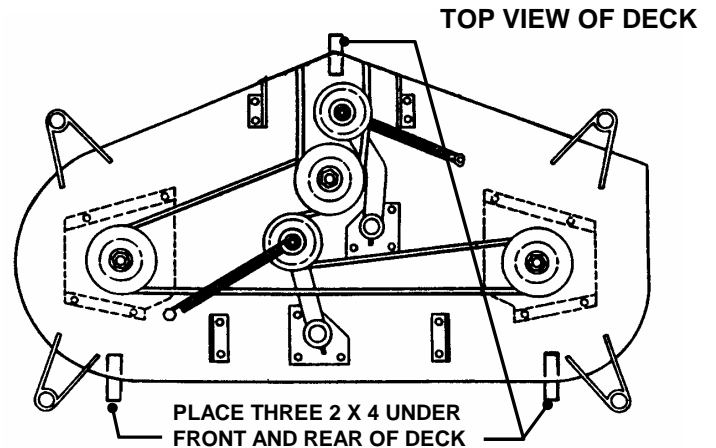

FIGURE 4.5
2. Rotate outside blades so tips are pointed to the sides of deck. See Figure 4.5. Measure the distance from blade tips to floor. If the measurement is within $1/8$ " from side-to-side, the deck levelness is satisfactory. If the difference from side-to-side is greater than $1/8$ ", continue to next step for adjustment.
3. Place a 2 x 4 piece of wood under the front middle portion of deck. Place one 2 x 4 piece of wood under the rear of deck on both sides behind the two outside blades. See Figure 4.5.